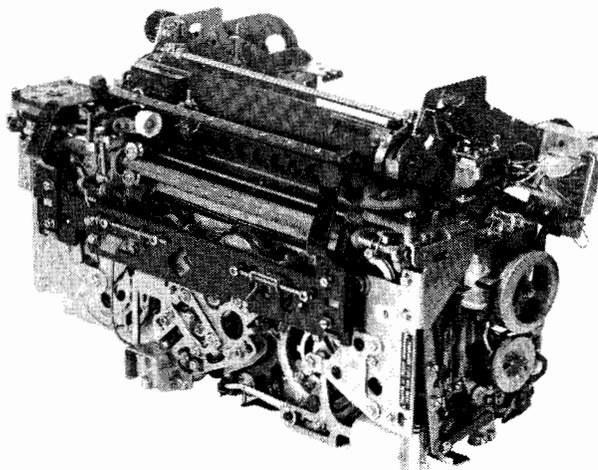

Figure 1 - 37 Typing Unit (Late Design)
1.01 This section provides lubrication procedures for the late design 37 typing unit (Figure 1). For similar information about the early design 37 typing unit, refer to Section 574-320-701TC.